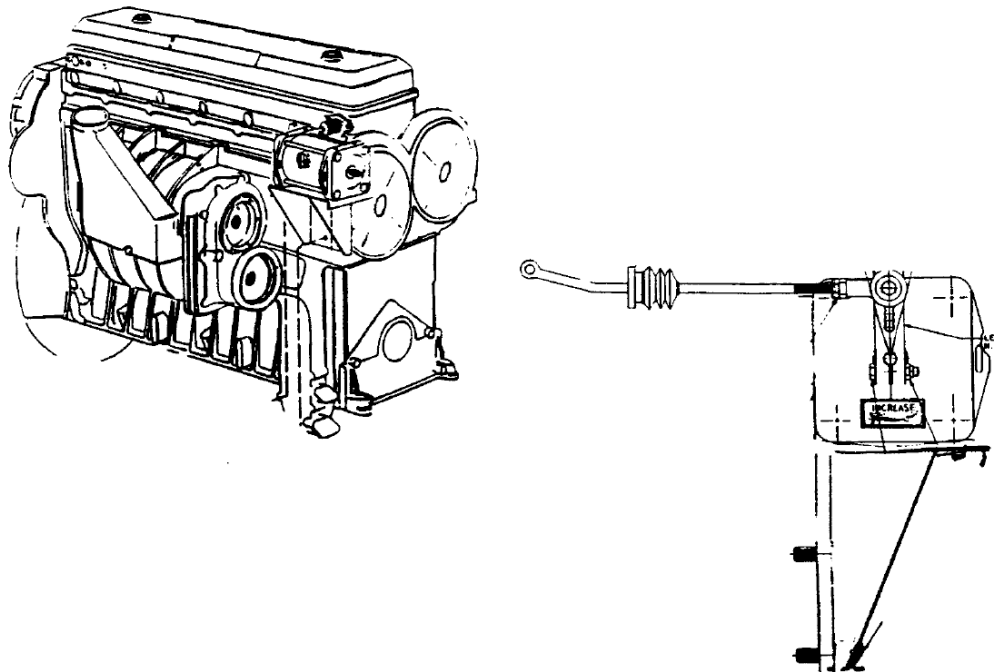

Figure 1. Linkage at Minimum Fuel
When the installation is complete, the linkage at minimum fuel should look about as it does in Figure 1. The actuator must be able to move the fuel rack between the high and low fuel requirements without binding the rack. Let the maximum stop on the actuator provide the maximum stop for the rack to be sure that the rack does not stick at maximum fuel. The length of the fuel rod link should be adjusted to supply the desired 15 to 30 degree rotation of the actuator.
2. Install the actuator on the bracket with the clockwise arrow toward the front of the engine. (The actuator lever will be placed on the end of the actuator with the counterclockwise arrow.) Install the actuator with four 0.250-20 x 0.625 cap screws and 0.064 thick washers (1082-005, 1010-805). These instructions are for installation on the side shown in Figure 1. When installing on the other side of the engine, use the opposite end of the actuator.